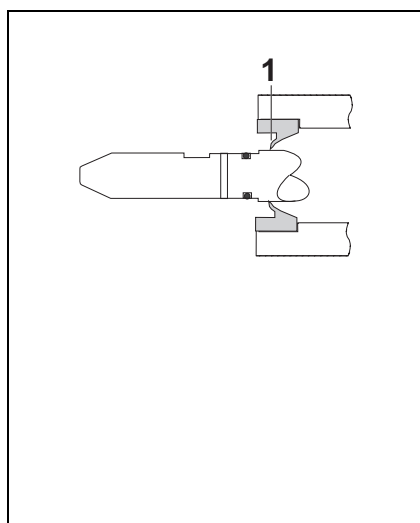

Fig. 6.13 Mounting direction
3. Check direction (see Fig. 6.13).